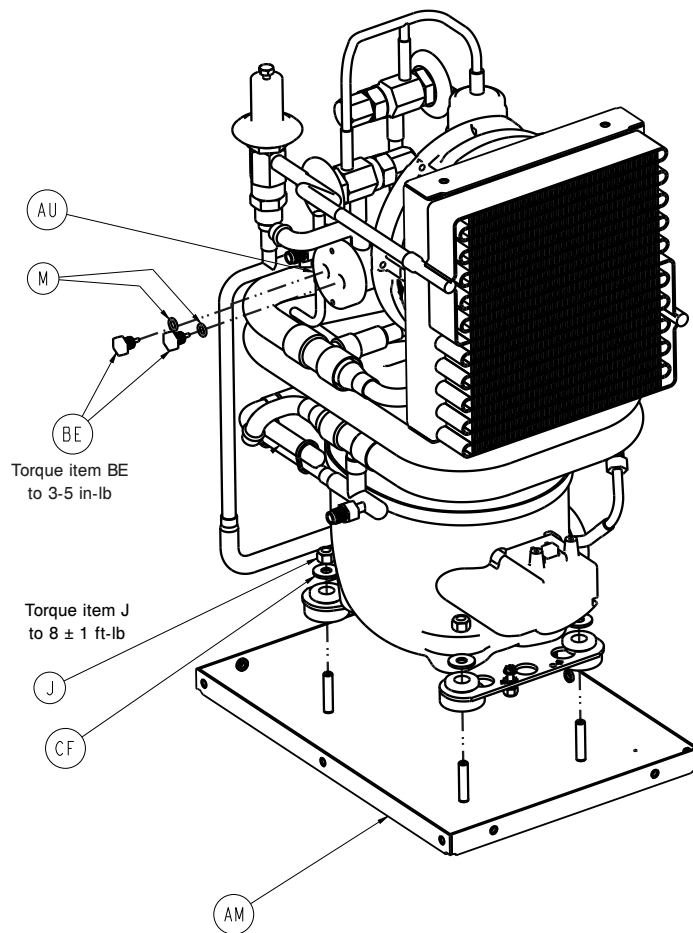

Figure 27: Temperature probe
- Using a utility knife remove the insulation around the heater well to gain access to either temperature probes (BE) (Figure 27 on page 40).